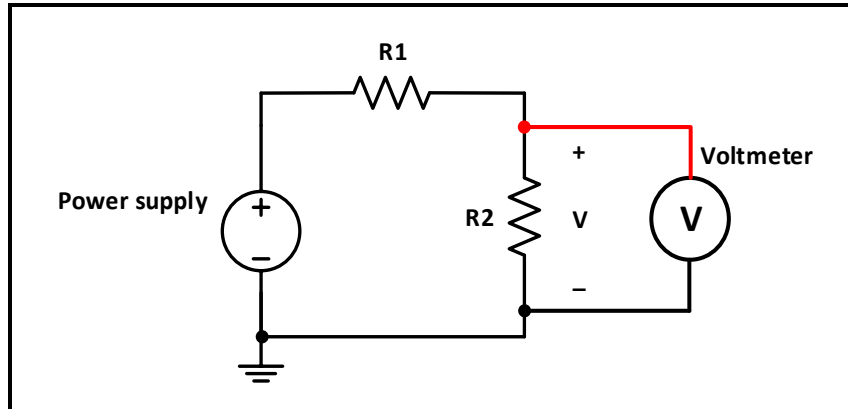

Figure 1.6: Multimeter connection to measure voltage.
- A voltmeter is connected **in parallel** with the circuit element where the voltage measurement is desired as shown in figure 1.6. Since the voltage across parallel elements